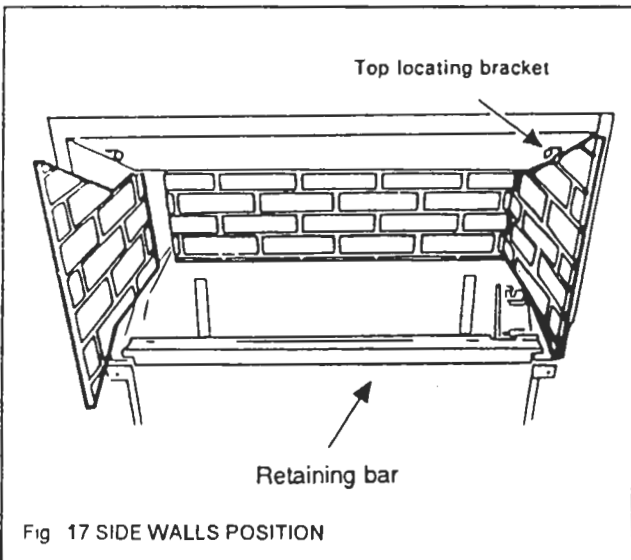

Fig. 17 SIDE WALLS POSITION
6.2. Place the ceramic side walls in position at the sides of the firebox. The sides are left and right handed. The sides should be held in position at the top by the angled brackets at the sides of the firebox and at the bottom by the edges of the black bar at front of the firebox (see fig. 17).